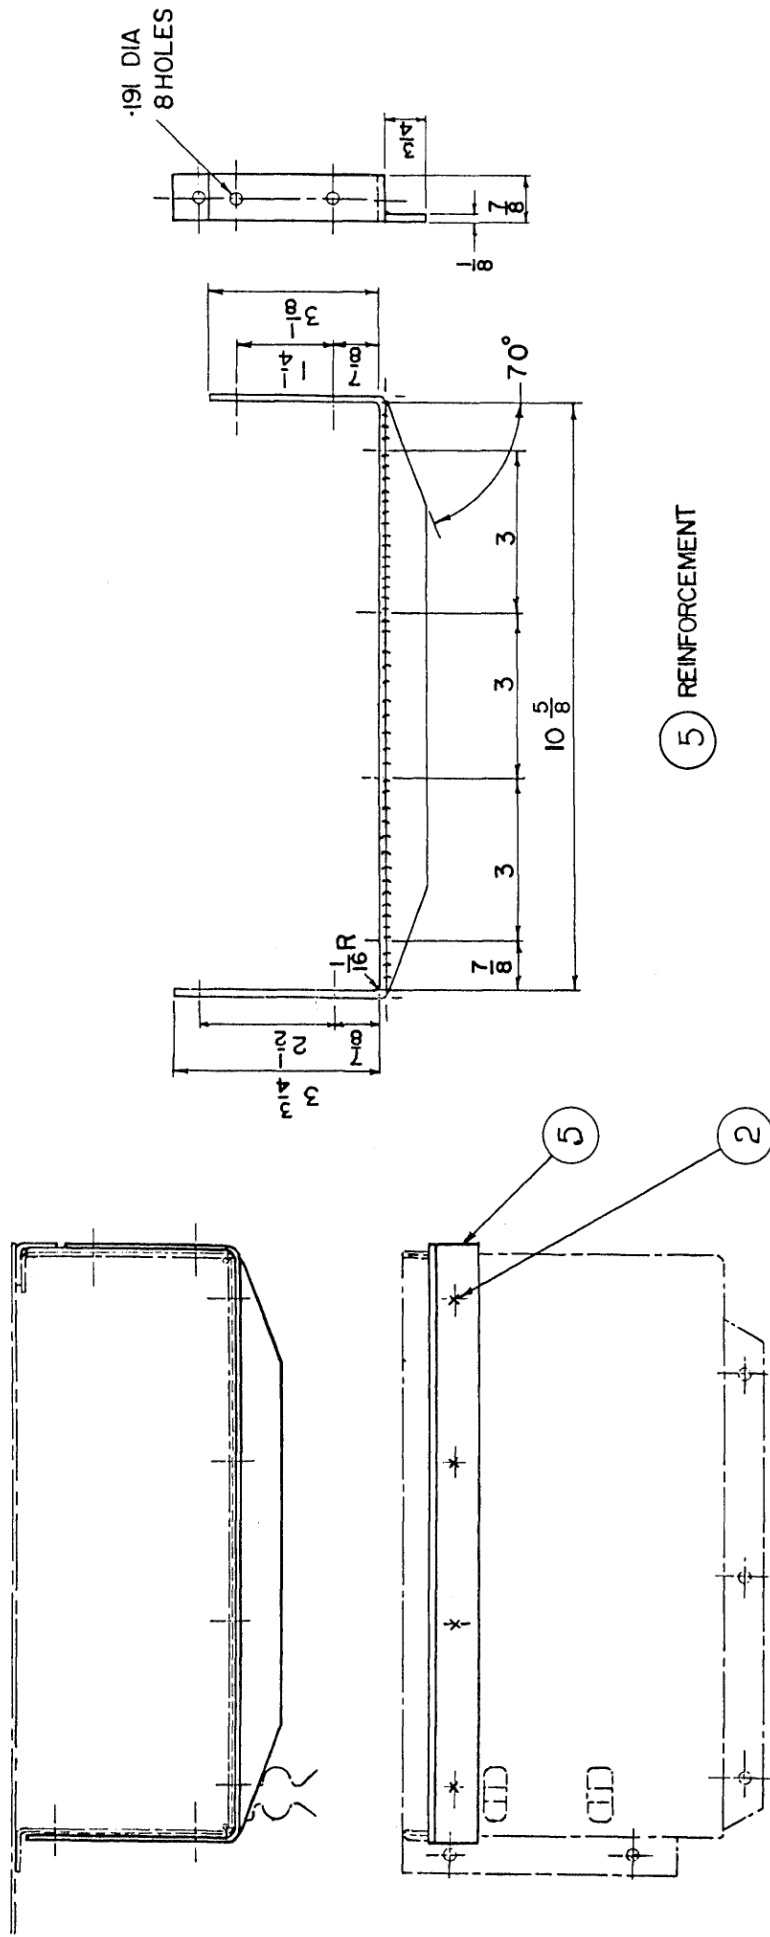

FIG 1 - .5 INCH AMMUNITION HOLDER REINFORCEMENT
- a. Manufacture the reinforcing frame as detailed in fig 1, welding to be done in accordance with WKSP B 010.